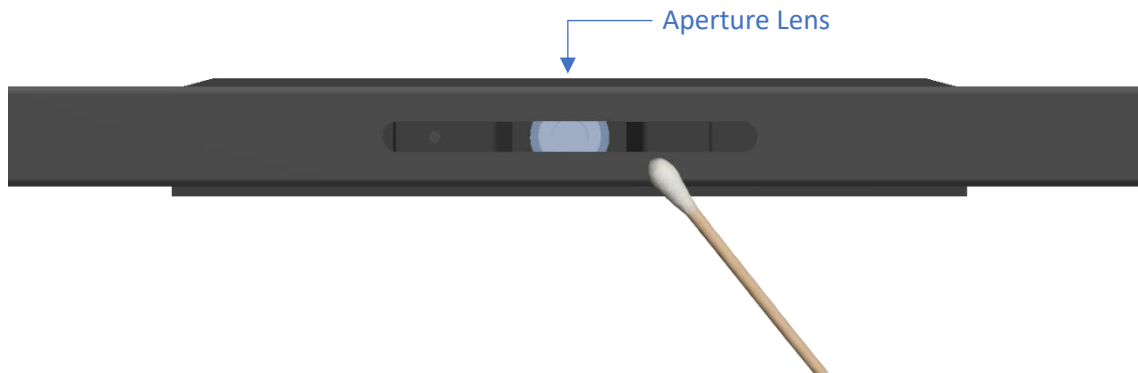

Figure 13: Location of Aperture Lens for Maintenance
2. Put the cotton swab through the slot in the frame near the aperture, see Figure 13.